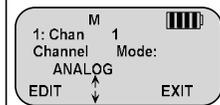

Figure 5
6. **Channel Mode:** Default is set to "Analog". (See Figure 5)